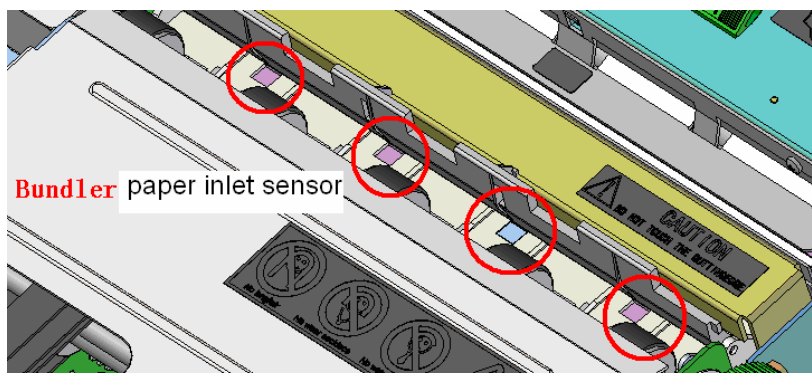

Fig.3.4.2 Bundler sensors 1
- ✧ Bundler inlet sensor: The reflection optical sensor is used to confirm if paper is available at Bundler. Four positions of Bundler are set shown as Fig.3.4.2 and also according to users' requirement.